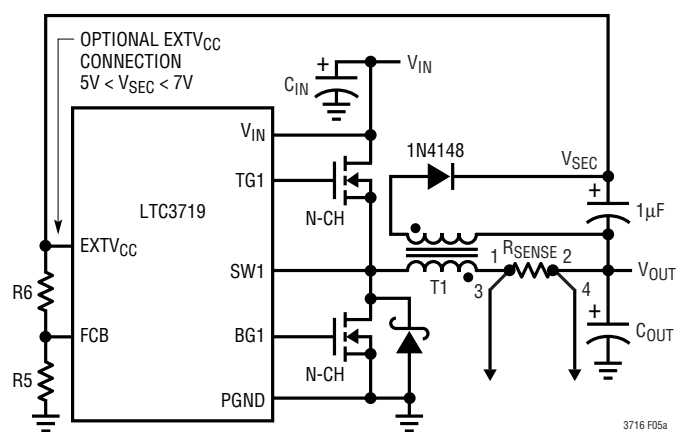
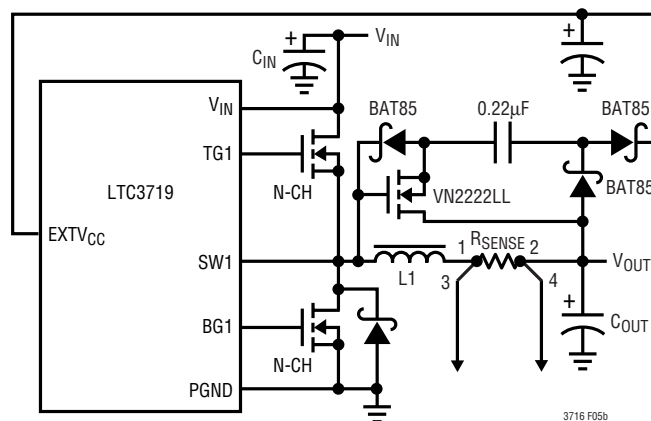

Figure 5a. Secondary Output Loop with  $EXTV_{CC}$  Connection
Figure 5b. Capacitive Charge Pump for  $EXTV_{CC}$
4.7V but less than 7V. This can be done with either the inductive boost winding as shown in Figure 5a or the capacitive charge pump shown in Figure 5b. The charge pump has the advantage of simple magnetics.
The secondary output voltage  $V_{SEC}$  is normally set as shown in Figure 5a by the turns ratio  $N$  of the transformer:
where  $R5$  and  $R6$  are shown in Figure 5a.